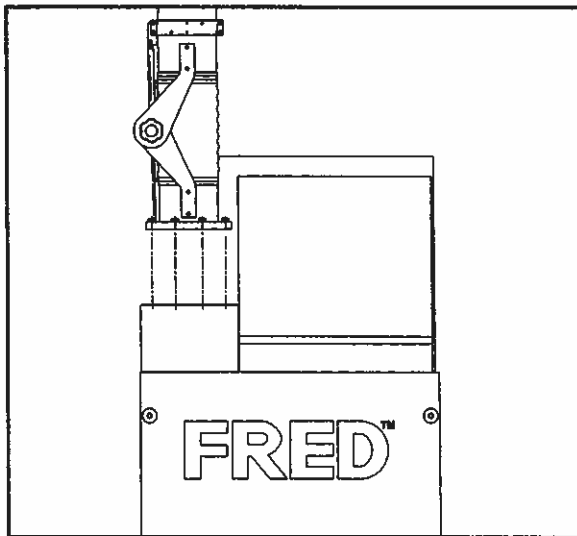

Figure 1 - Capture Arm Installation
- Mount capture arm on unit by bolting arm base on inset support plate (see Fig. 1).